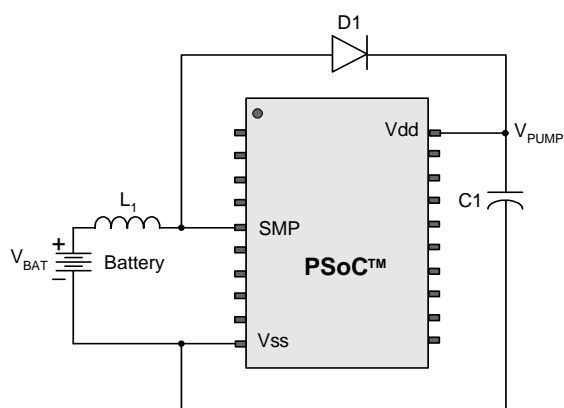

Figure 3-2. Basic Switch Mode Pump Circuit
a. $L_1 = 2\text{ }\mu\text{H}$ inductor, $C_1 = 10\text{ }\mu\text{F}$ capacitor, $D_1 = \text{Schottky diode}$. See Figure 3-2.